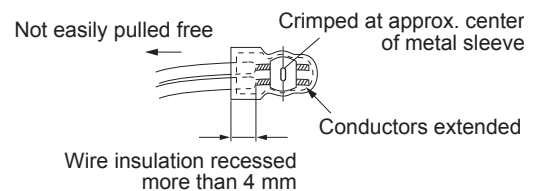

Fig. 1-1-7
e) Check the four points noted in Fig. 1-1-7.